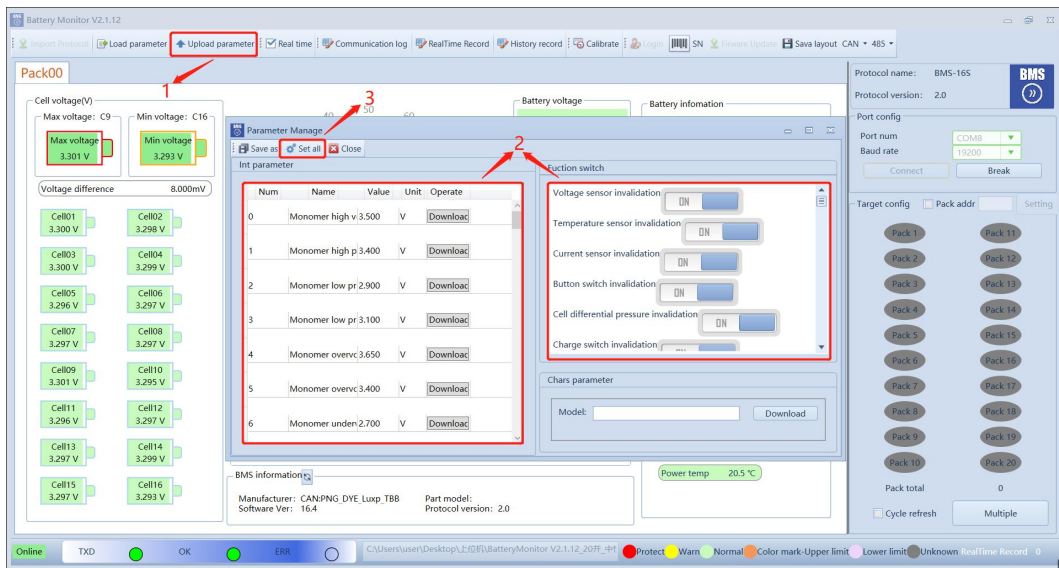

Figure6-4
- 3) Click "Set all" to complete the modification, Figure 6-4